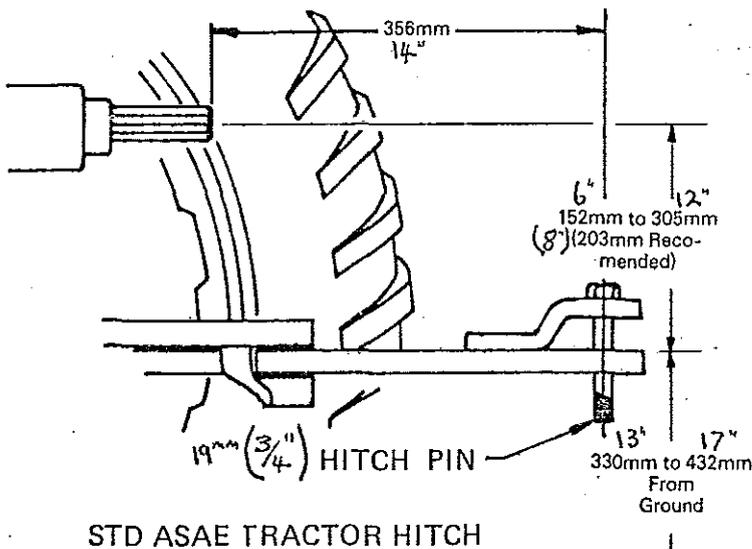
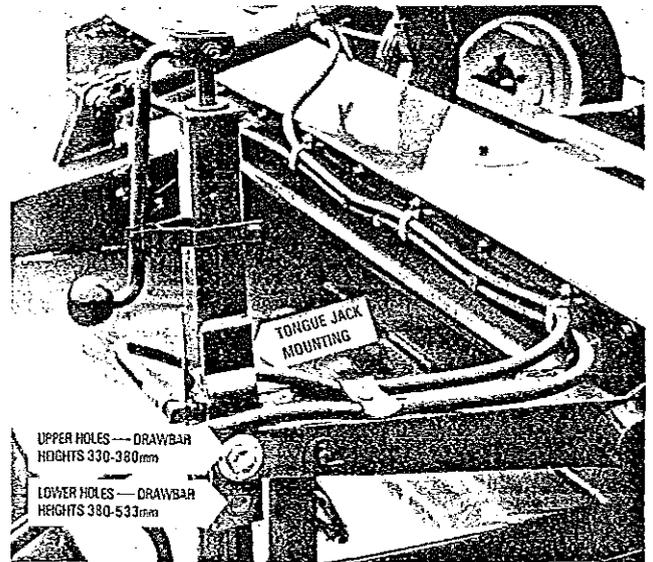

FIGURE 3
FIGURE 4
- Connect as per ASAE tractor hitch (Fig. 3). Lock drawbar in central position. (Preferred drawbar height 16" - 17" [450mm - 430mm]). See also Fig 4.